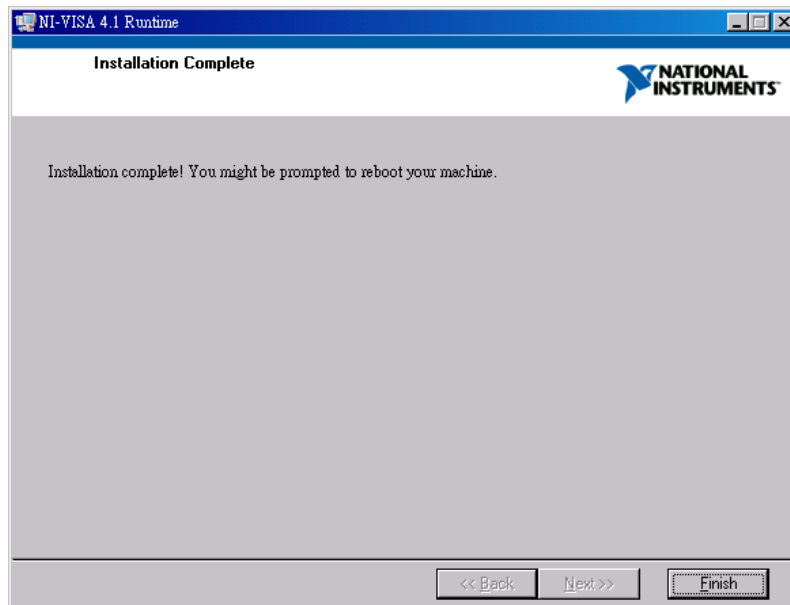

Figure 2-10 NI VISA Installation Complete Screen
3. Click **Next >>** following the prompted message for installation. When all the procedures are done, the installation complete is shown as Figure 2-10.